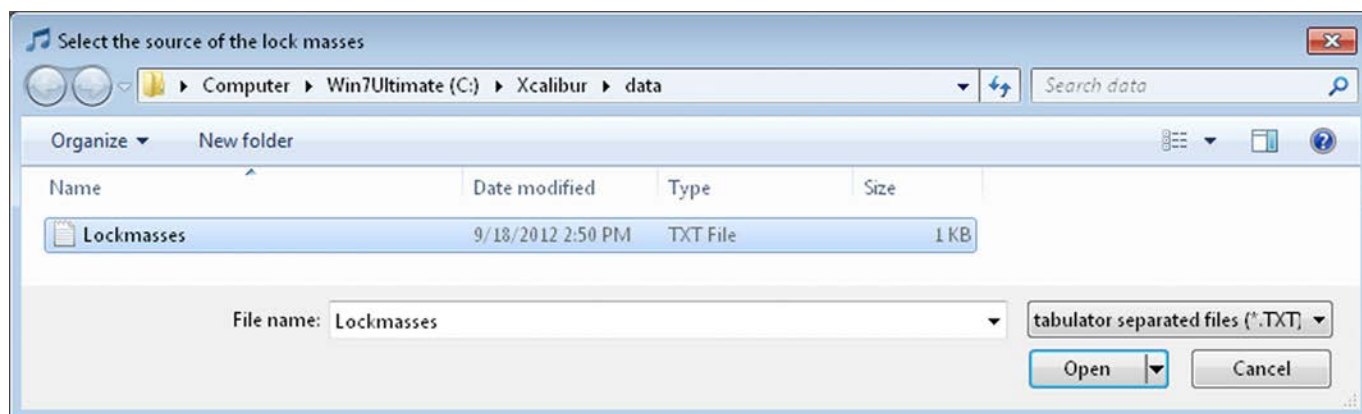

Figure 5-5. Selecting the lock mass import file
4. The Lock Mass Replacement dialog box is closed. The file selection dialog box is displayed. See Figure 5-5.